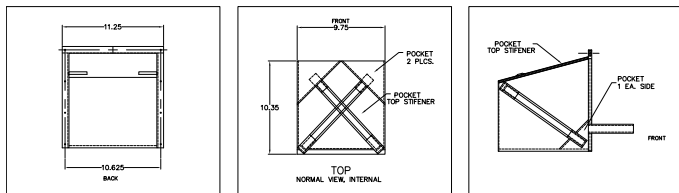

Figure A.1: Rain hood stiffener pockets
4. Fold both supports out and re-insert them into the two pockets, shown in Figure A.1, in the lower corners of the soft side flaps. This will hold the rain hood fully open for use, which is necessary for proper cooling of the MILO 120 loudspeaker's electronics.